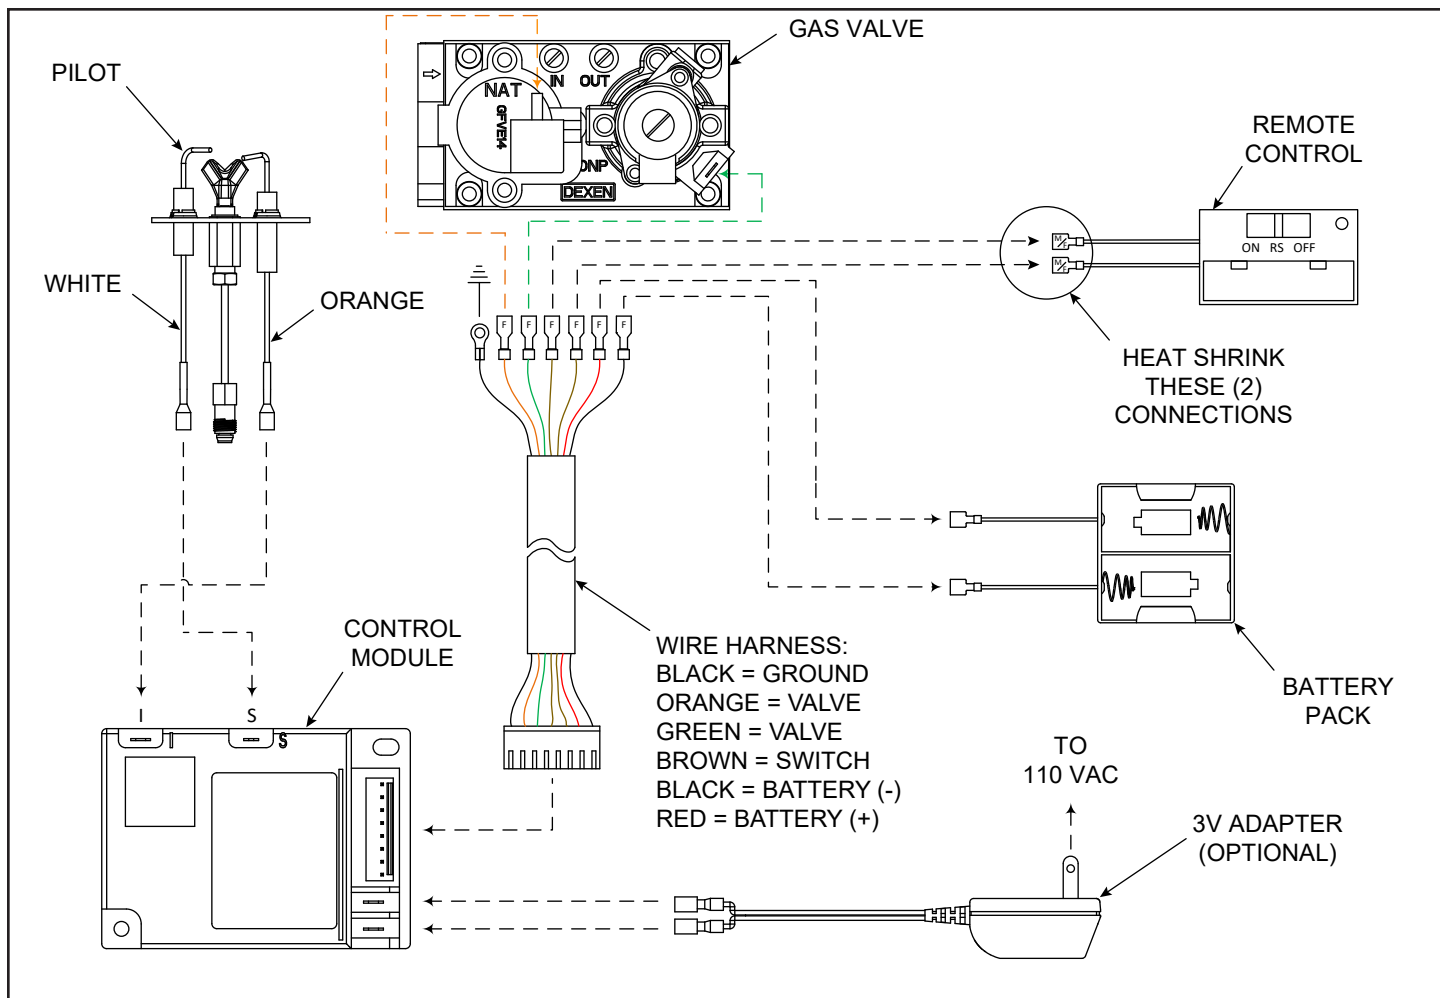

Figure 7.4 IPI Wiring Diagram
- For proper electrical connections see Figure 7.4.
1. Connect the remote control receiver to appliance brown switch wires using the included wire harness as shown in Figure 7.4.